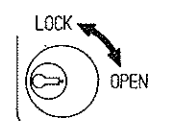

Fig. 6
2) With lock option as per figure 6.